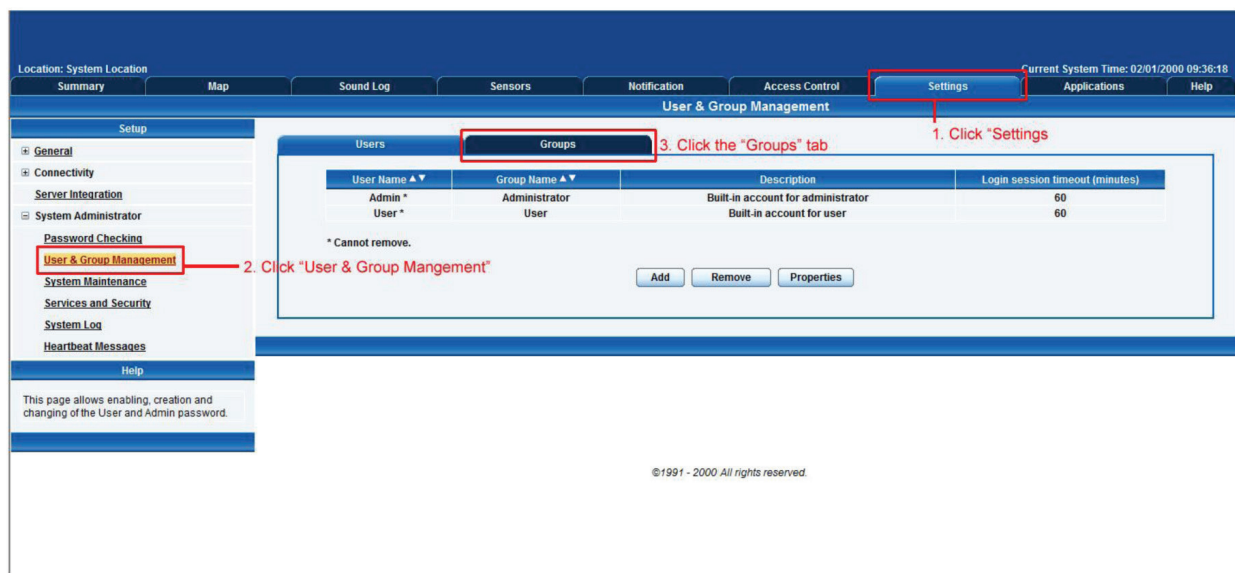

Figure 3-13. Group Setup screen.
2. Click on the Settings page, then System Administrator, then User & Group Management as shown in Figure 3-13.